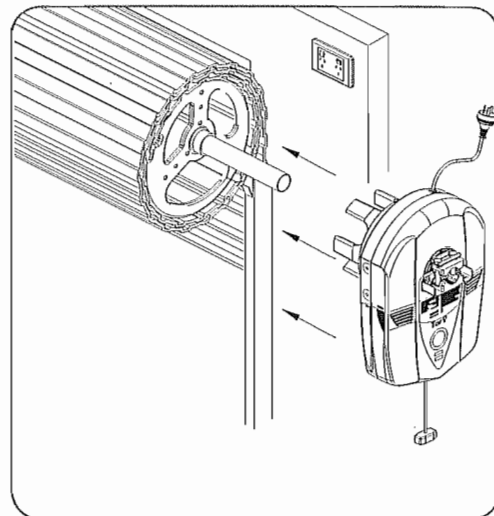

fig 07
- b. Slide the opener over the door axle and into the drum of the door (Fig. 07).